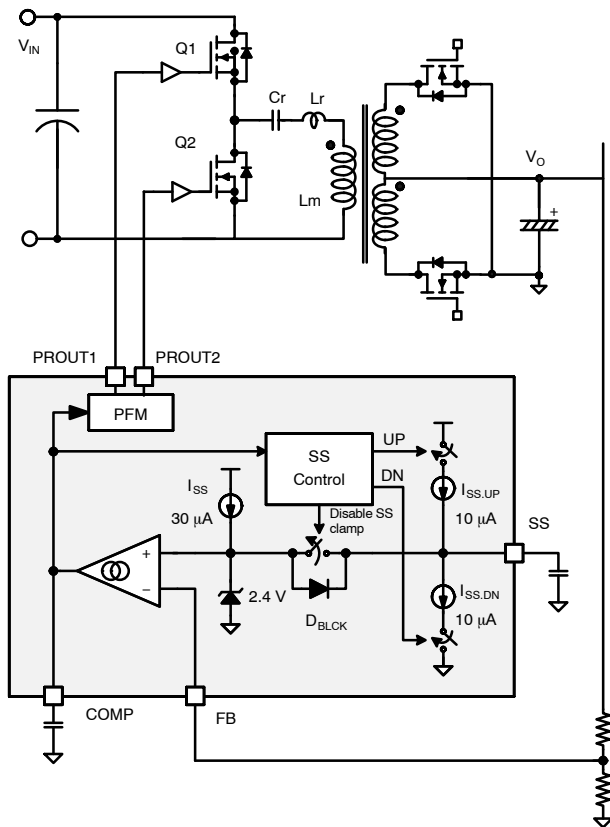

Figure 68. Schematic of Closed Loop Soft-Star
Figure 68 shows the simplified circuit block for feedback control and closed loop soft-start. During normal, steady state operation, the Soft-Start (SS) pin is connected to the non-inverting input of the error amplifier which is clamped at 2.4 V. The feedback loop operates such that the sensed output voltage is same as the SS pin voltage. During startup, an internal current source ( $I_{SS,T}$ ) charges the SS capacitor and SS pin voltage progressively increases. Therefore, the output voltage also rises monotonically as a result of closed loop SS control.